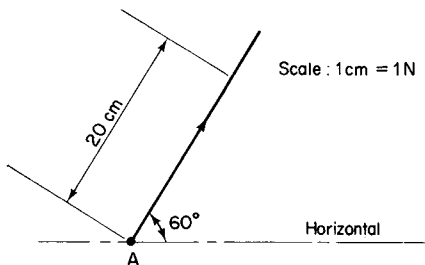

Fig. 2.11 The force of Fig. 2.10 represented graphically
The procedure is as follows (Fig. 2.11):
- (1) Faintly draw a horizontal line and on it mark the point A which is the point of application of the force.
- (2) From A draw a faint line inclined at  $60^\circ$  to the horizontal.
- (3) Choose a suitable scale to represent the magnitude of the force. In Fig. 2.11 a scale of  $1 \text{ cm} = 1 \text{ N}$  has been chosen. Hence  $20 \text{ N}$  will be represented by a length of  $20 \text{ cm}$ . From A mark off a length of  $20 \text{ cm}$  along the inclined line.
- (4) Place an arrow on the line to indicate the sense of the force.